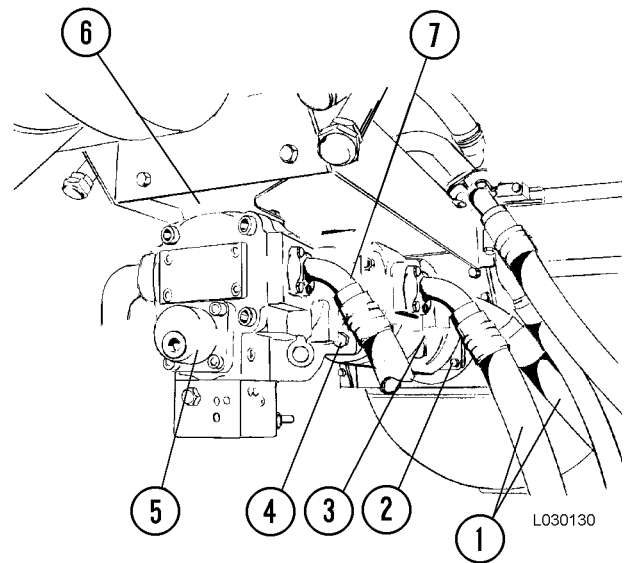

FIGURE 50-1. HOIST PUMP REMOVAL
4. Loosen the capscrews that secure the inlet hoses and outlet hoses to hoist pump (3, Figure 50-1). Allow the oil to drain into a suitable container.